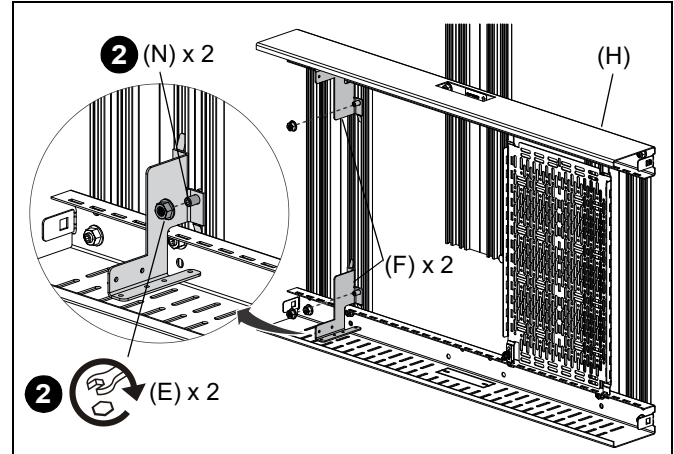

Figure 18
1. Remove two M8 flange nuts (E) from two M8 x 12mm bolts (N) inside the storage box (H). Hold the bolts in the desired mounting locations of the rack brackets (F).
2. Position two rack brackets (F) over the M8 x 12mm bolts (N) in the desired locations and secure using two M8 flange nuts (E). (See Figure 18)